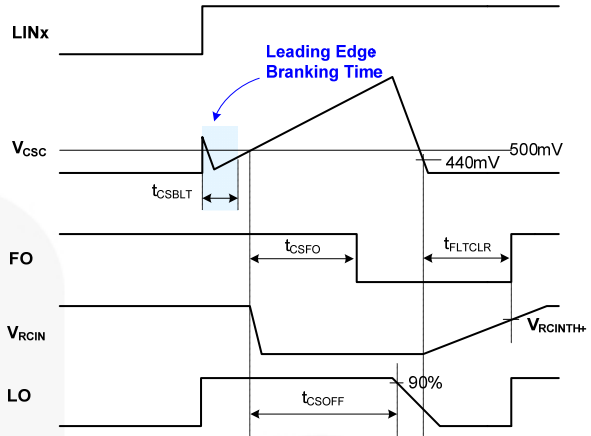

Figure 42. RCIN and Fault-Clear Waveform Definition
Figure 42 shows the waveform definitions of RCIN, \overline{FO} and the low-side driver, which uses a soft turn-off method when an under-voltage condition of the low-side gate driver supply voltage (V_{DD}) or the current-sense pin (CS) recognizes a fault. Once a fault condition occurs, the \overline{FO} pin is internally pulled to COM and all outputs (HO1,2,3 and LO1,2,3) of the gate driver are turned off. Low-side outputs decline linearly by the internal sink current source ($I_{SOFT}=40\ \text{mA}$) for soft turn-off, as shown in Figure 42.